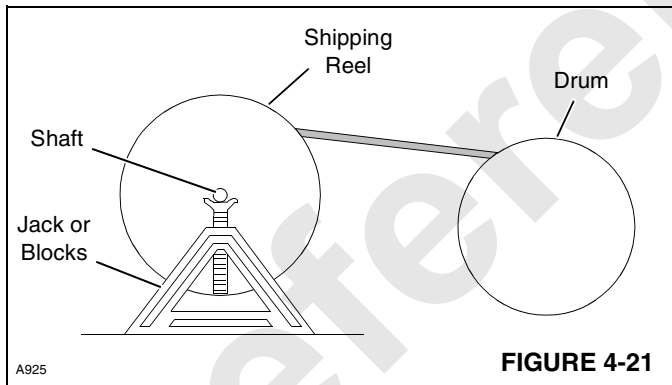

FIGURE 4-21
1. Mount wire rope shipping reel on a shaft supported at both ends by jacks or blocks as shown in Figure 4-21.